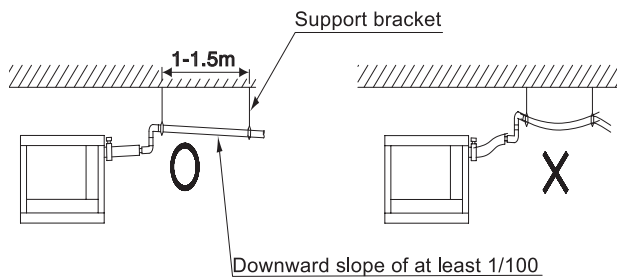

Fig. 10
- Install the drain piping as short as possible with downward inclination of 1/100 or more and such that air may not stagnate. (Refer to Fig.10)
- Install supports at a distance of 1 to 1.5m so that the piping may not deflect. (Refer Fig. 10)
- Make sure to use the attached drain hose (2) and the metal clamp (1).